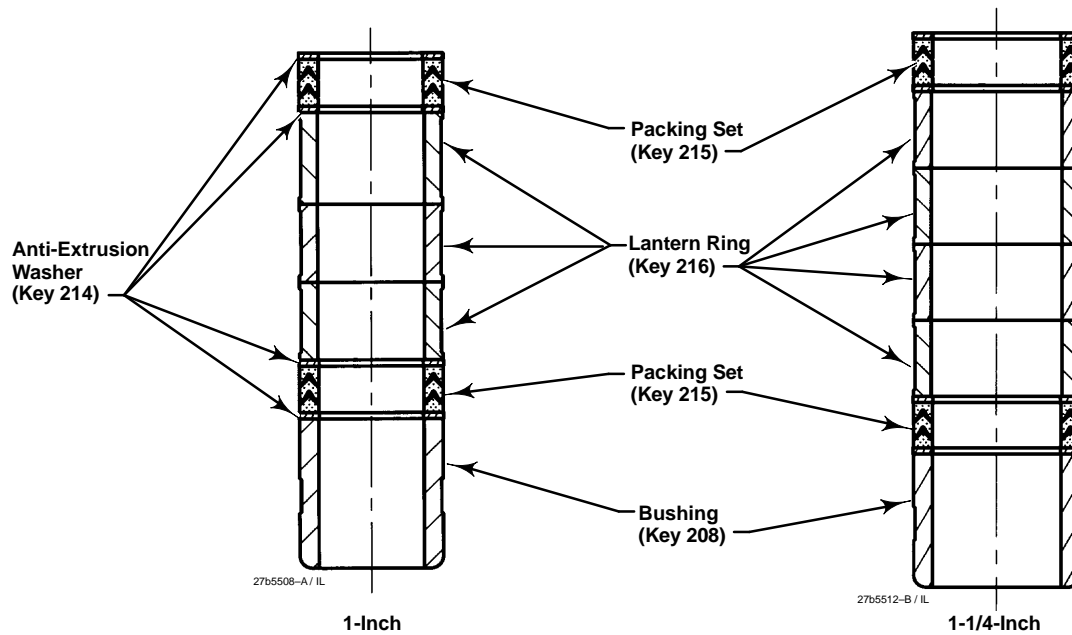

Figure 1. ENVIRO-SEAL PTFE V-RING WITH ONE-PIECE BUSHING
3. Refer to figure 1 to ensure that the packing parts are assembled in the correct order. Install the ENVIRO-SEAL packing parts into the packing box.
4. Install the spring pack assembly (key 217), which includes the attached springs, and packing flange (key 201), on the stem. Install the nuts (key 212) and hand tighten them.